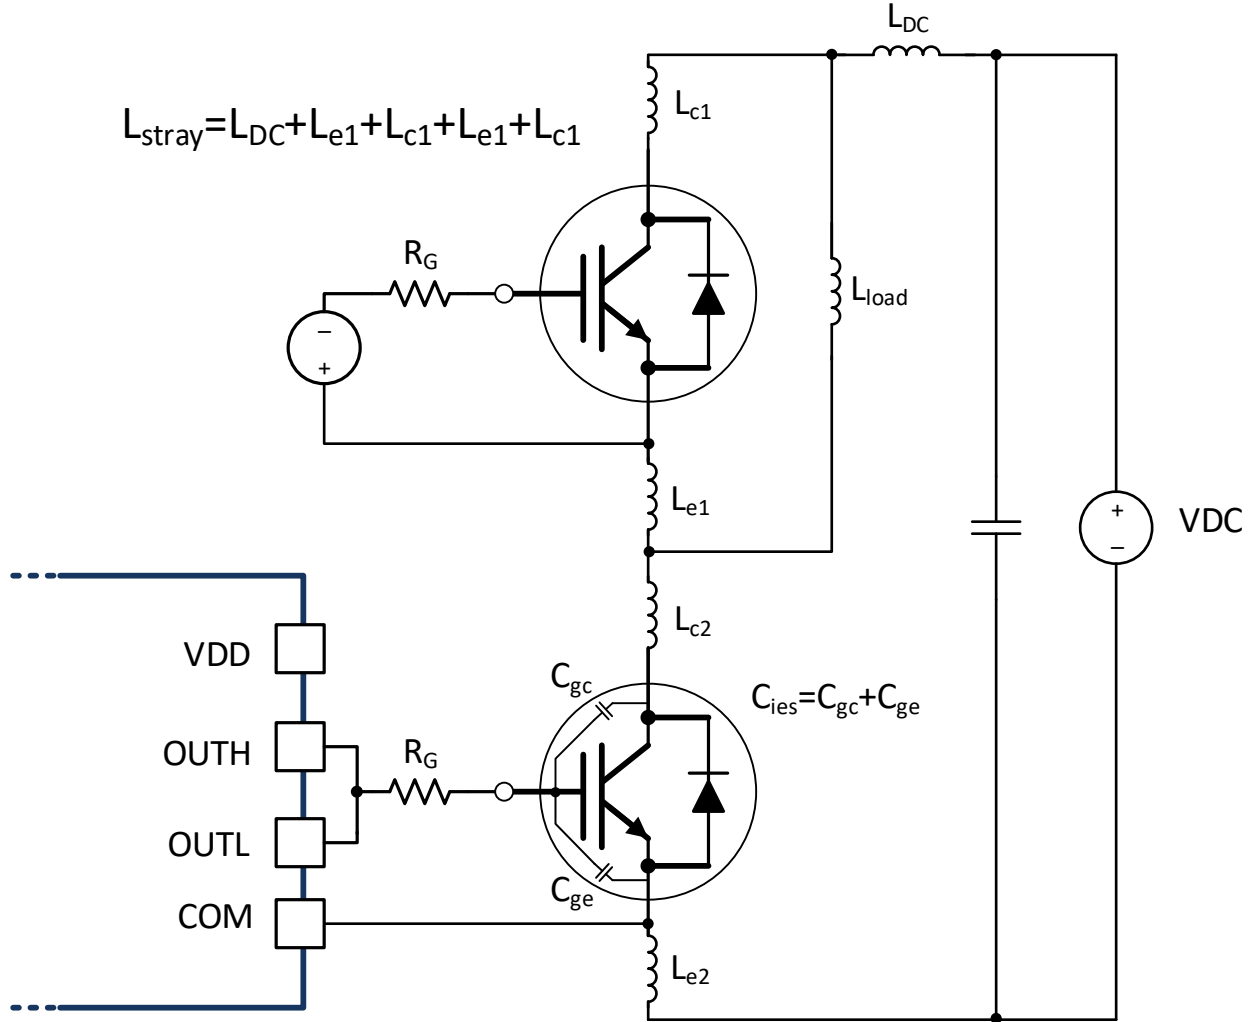

图 9-6. Stray Parasitic Inductance of IGBTs in a Half-Bridge Configuration
- L_{stray} is the stray inductance in the power switching loop, as shown in 图 9-6.